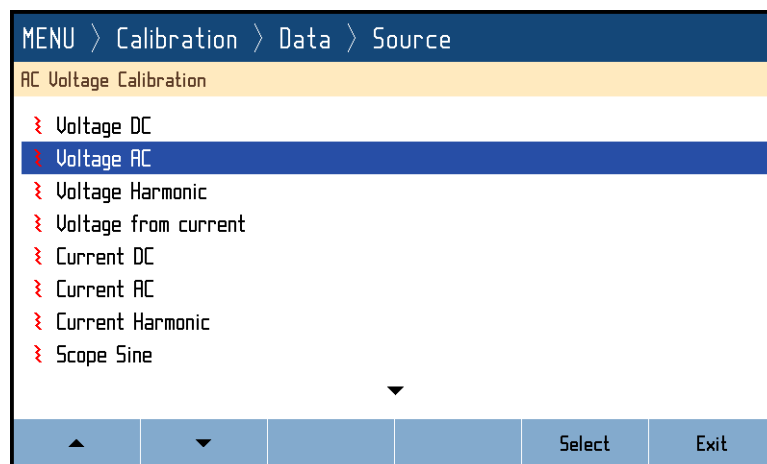

Figure 43 Calibration menu with out-of-date calibration data
- Values with other units (mostly used in meter functions or fixed source standards) can be calibrated indirectly by typing in meter readout. Figure 43 below shows an example of 100 Ω point of fixed resistance function which has been adjusted by measuring resistance on output terminals with standard meter and typing in the standard readout (99.9955 Ω)